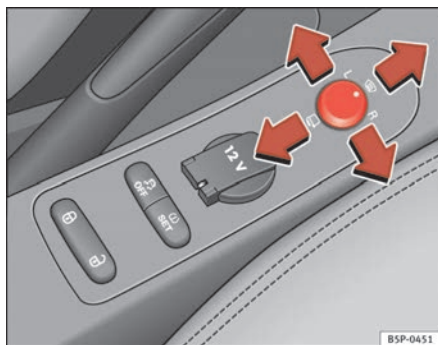

Fig. 89 Controls of exterior mirrors
1. Turn knob ⇒ fig. 89 to position **L (left exterior mirror)**.
- Turn the knob forwards to the central position ⇒ fig. 89  so that the heated rear view mirrors warm up and the heated wind-screen* in the wiper blade rest area is activated ⇒ page 121.
- Turn the control ⇒ fig. 89 to position  to fold in the exterior mirrors. You should always fold in the exterior mirrors if you are driving through an automatic car wash. This will help prevent damage.